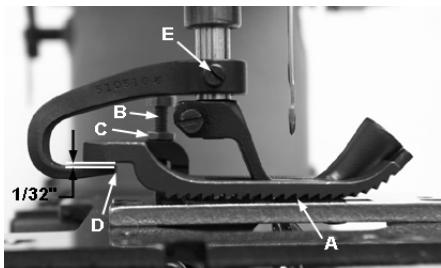

Fig 10A
Set the up upper feed dog so at it lowest position the teeth will just contact the lower feed dog teeth (A, Fig 10A). To make this adjustment, loosen nut (C) and turn screw (B) up or down as required. Lock nut (C) after adjustment has been made.
With the upper feed dog at its lowest position, set the lift lever so the there is approximately  $1/32"$  clearance between the top of the lift lever and the bottom of the feed dog heel. (D, Fig 10A) To make this adjustment loosen screw (E) and move the lift lever up or down as required.